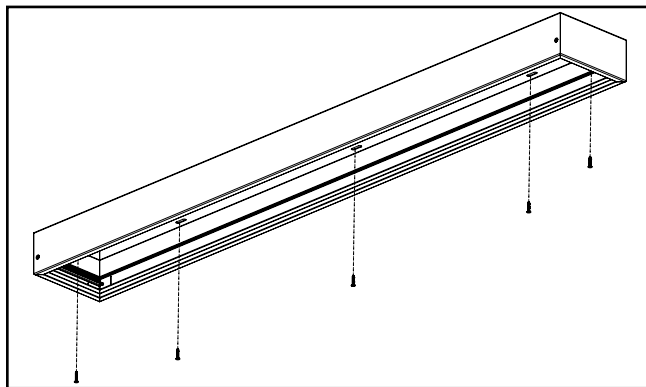

Figure 5.
- A5. Attach box to ceiling using appropriate hardware (not included) to secure both short rails and one of the long rails to the surface. Ensure the box remains square when mounting. The spacing of the mounting slots is 16 inches center-to-center. (Figure 5.)